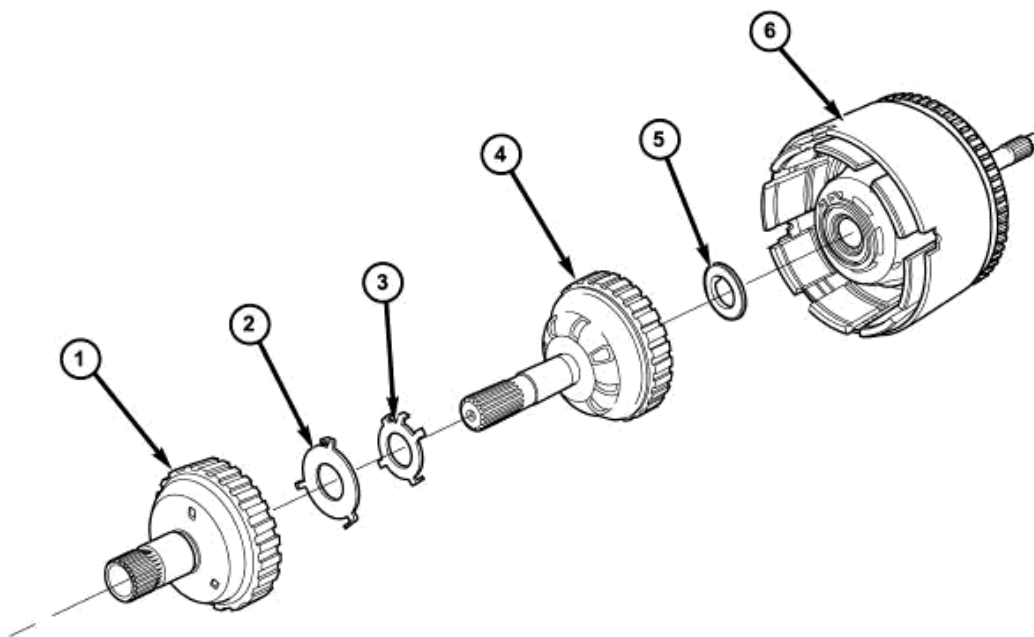

Fig. 262: Overdrive/Underdrive Shafts
49. Refer to **Fig. 262** as necessary when performing the following steps .